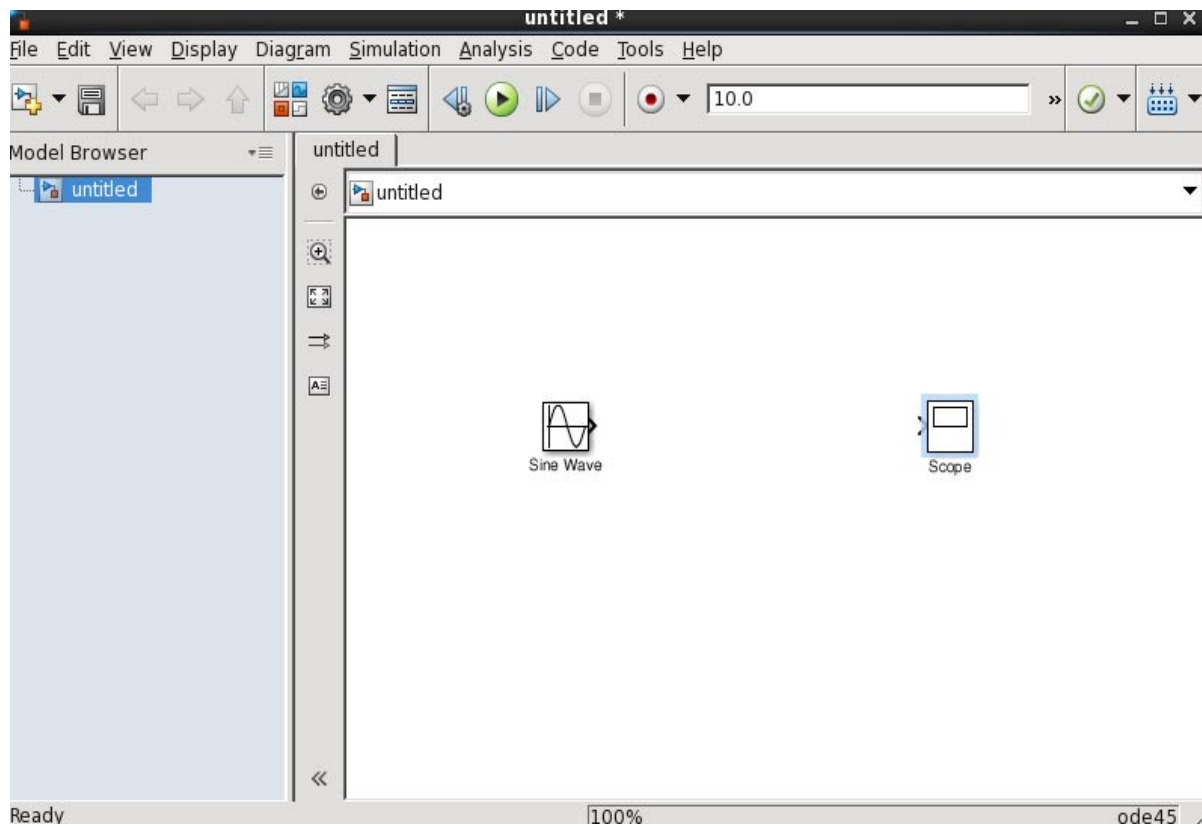

Figure 5: Model window with Sine and Scope blocks.
4. Select **Sinks** from the Library Browser window, select the Scope icon and drag it to the Model window. The Model window will now contain a Sine Wave source and a Scope sink block as shown in Figure 5.